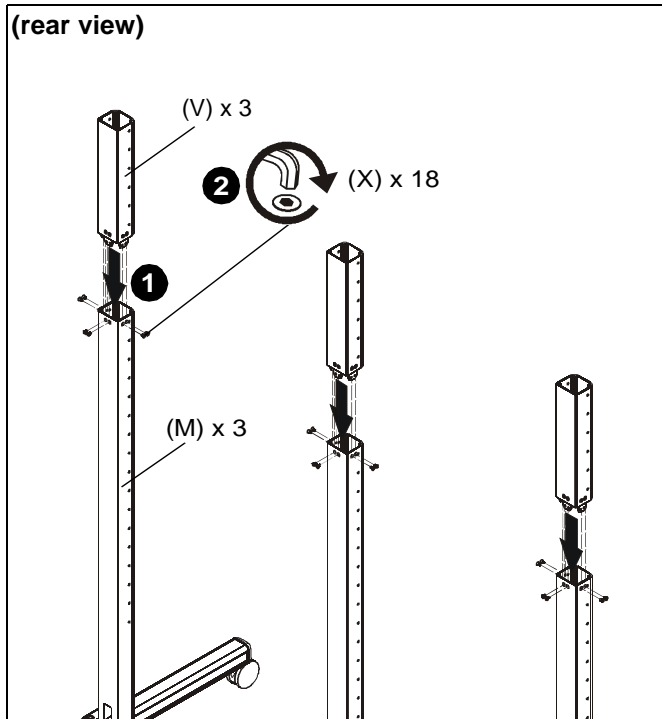

Figure 7
1. Insert one column add-on (V) to each of three columns (M) making sure holes are lined up on each side. (See Figure 7)
2. Use eighteen 1/4-20 x 1/2" flat head cap screws (X) to secure column add-ons (V) to columns (M). (See Figure 7)